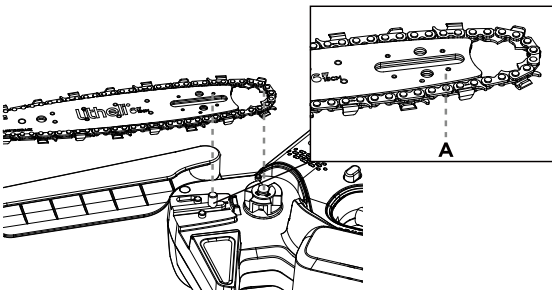

Fig. 3
3. Fit the chain onto the drive sprocket, and make sure the fastening bar bolt on the bar pad fits into the keyway of the opening on the guide bar, and the tension pin on the bar pad fits into the groove (A) on the guide bar. (Fig. 3, 4)